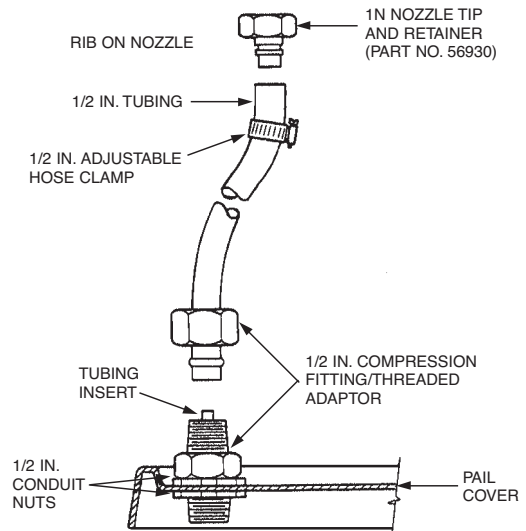

FIGURE 4
- b. Using a 1N nozzle tip and retainer, (Part No. 56930), slide a length of 1/2 in. (1.3 cm) plastic tubing over the rib on the nozzle tip and secure with a 1/2 in. (1.3 cm) adjustable hose clamp. See Figure 4. This nozzle tip will be connected to the nozzle body left installed in the distribution piping.
- d. Secure 1/2 in. compression fitting/threaded adaptors to the pail cover, using 1/2 in. conduit nuts. See Figure 4.
- e. Attach the tubing ends to the compression fittings. Tubing inserts will be required. See Figure 4.